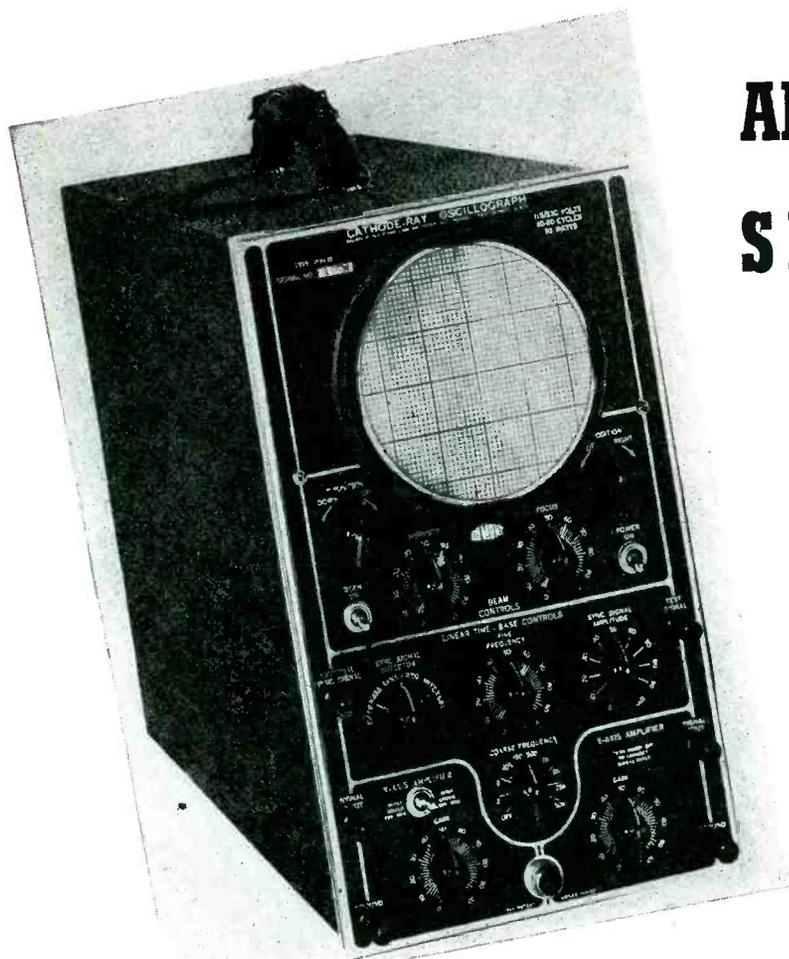
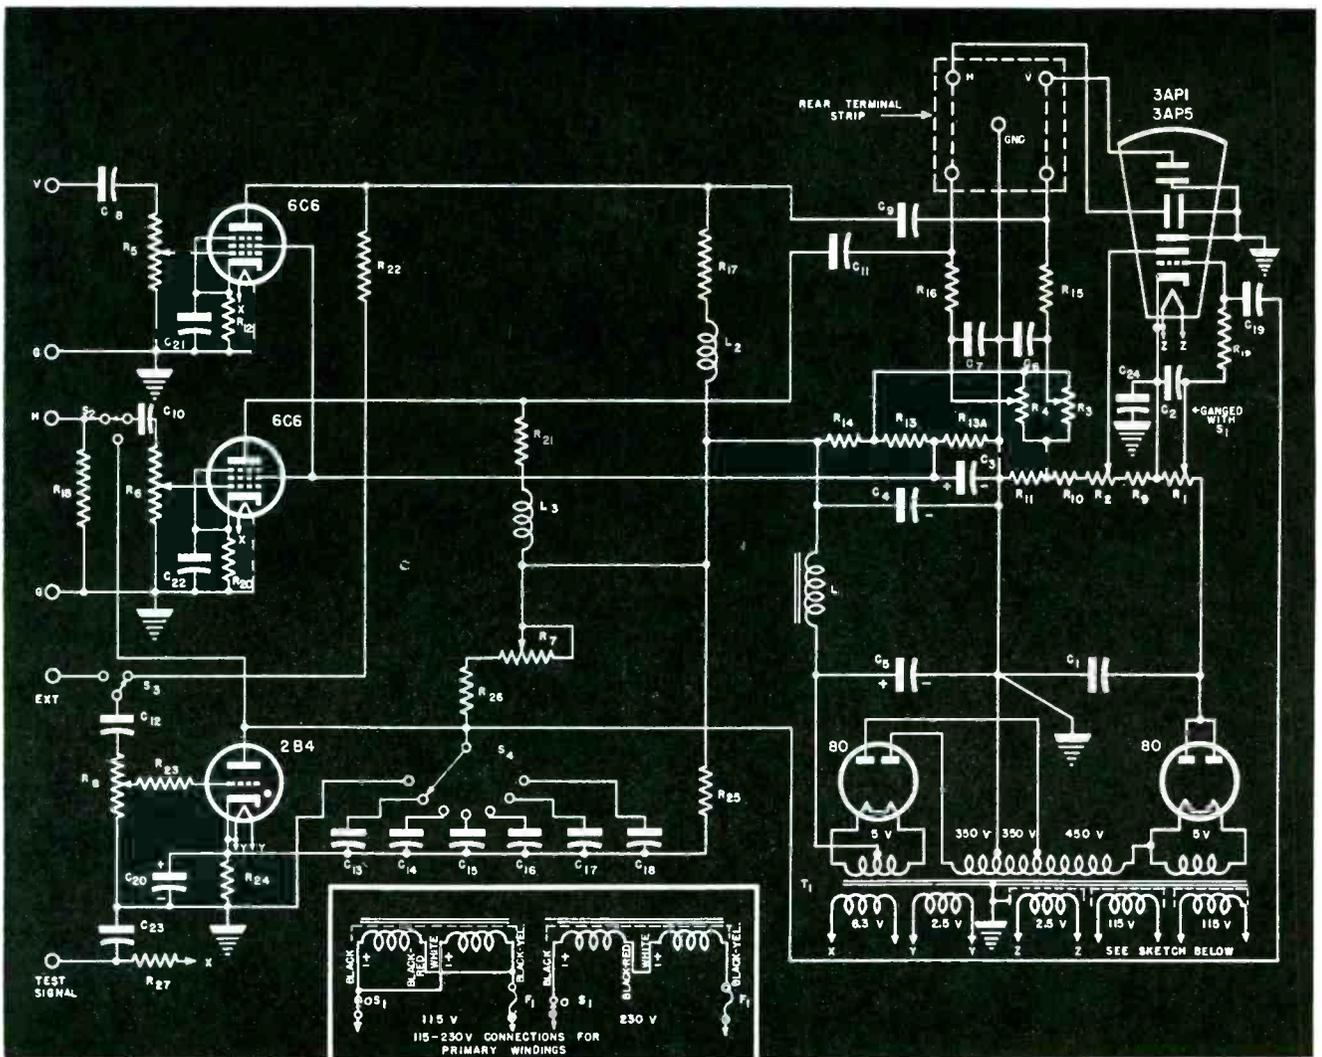

Fig. 1. Oscilloscope with 5" screen
Fig. 2. Circuit of oscillograph using 3" tube; Du Mont 164-E.
Most commercially available oscilloscopes are arranged as portable units similar to the *Du Mont 208B* unit, Fig. 1. In this form, the unit is portable and may even be carried into the field for electronic circuit investigation. The circuit of an instrument of this type, but of less complex nature, *Du Mont 164E*, appears in Fig. 2.
The right hand 80 rectifier, Fig. 2, rectifies the *negative* half-cycles of the 800-volt a-c potential between the filament or cathode of this tube and chassis. (Continued on page 40)
Fig. 3. The d-c circuits of the oscillograph shown in Fig. 2. The only departure from resistance-capacitance coupled amplifiers appears in the c-r tube electrode supply circuits. Note that the maximum potential present in this system is the sum of the output voltages provided by the two rectifier systems.
Figs. 1 (left) and 2 (right). In Fig. 1, we have resistance characteristic curves illustrating linear, left-hand, right-hand, and combination left-and-right-hand taper. Fig. 2 shows two variations of an audio shunt type of volume control. Both require a control having left-hand taper, but the control terminals are connected differently in each case.
Several types of manual volume-control circuits—especially those of the *shunt* or *short-out* types—require a control having left-hand taper of suitable resistance characteristic to obtain smooth, uniform control of volume. The volume-control circuit illustrated at (A) of Fig. 2 is of this type. The control is connected as a potential divider shunting the secondary of the audio transformer. It enables any desired fraction of the audio voltage developed by the secondary to be applied to the grid circuit of the audio tube. Full loudness is obtained when the movable contact *C* is at the full-resistance (*R*) end of the volume control resistor, for then the full audio-voltage is applied to the grid. Since it is desired that full loudness should occur when the volume control knob has been turned (clockwise) fully toward the *R* terminal of the control, the control must be connected into the circuit with its *L* and *R* terminals arranged as shown in the diagram, i.e., contact arm *C* approaches right-hand terminal *R* for the full-loudness position.
A slight variation of this circuit is illustrated at (B) of Fig. 2. Here the contact arm is connected to ground. Since maximum audio voltage will now be applied to the grid circuit of the tube when the contact is at the lower end of the resistor, full volume will be produced when it is in this position. Therefore, the control must be connected so that its left-hand, *L*, terminal goes to the grid and its right-hand